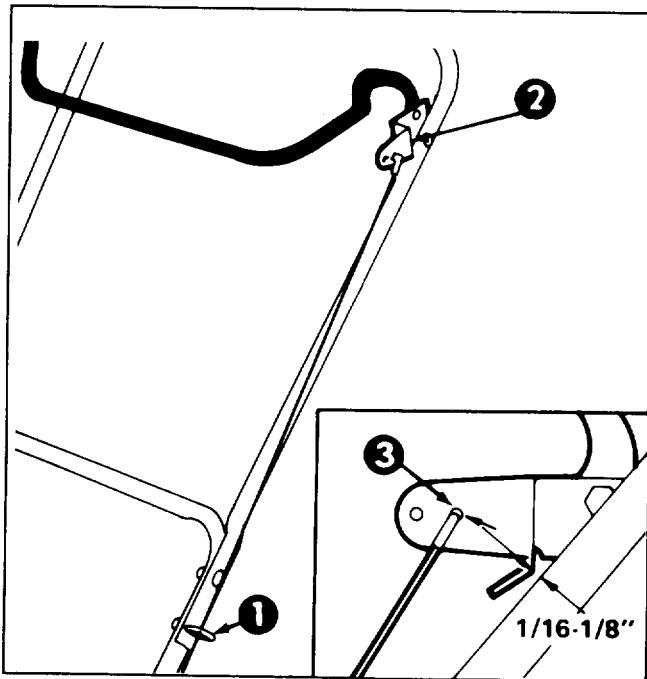
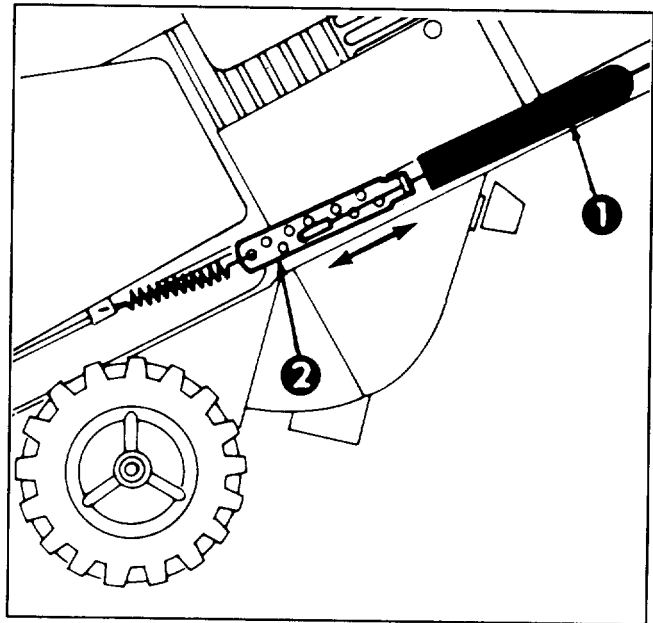

Figure 9
Figure 10
2. **CHECK ADJUSTMENT** (Fig. 9)—Move control bar back toward handle until slack in cable is removed. Gap between control bar bracket and handle should be approximately $1/16"$ – $1/8"$. If cable is too loose or too tight, proceed to step 3 for adjustment procedure.
3. **ADJUST CABLE**—Unhook upper cable end from hole in control bar bracket (Fig. 9). Slide spring cover up cable to expose cable adjuster (Fig. 10). Unhook lower cable end from adjuster. Reposition cable end in a higher or lower hole on adjuster to obtain a gap of $1/16"$ – $1/8"$ between control bar bracket and handle. (Positioning cable end in a lower hole decreases gap; positioning cable end in a higher hole increases gap.) Reinstall upper cable end into rear hole in control bar bracket (hole with arrow) (Fig. 9). Slide spring cover over cable adjuster and recheck adjustment. Repeat procedure until the proper gap of $1/16"$ – $1/8"$ between control bar bracket and handle is obtained.